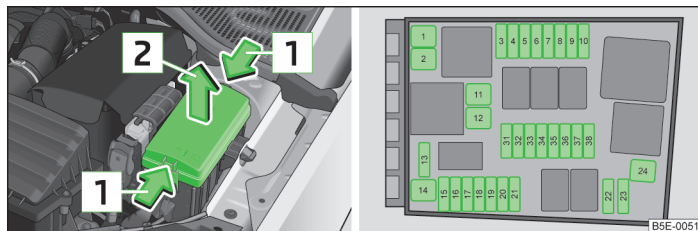

Fig. 218 Fuse box cover in engine compartment/Schematic diagram of the fuse box
- Press together the interlocks of the cover simultaneously in the direction of the arrow **1** » Fig. 218.